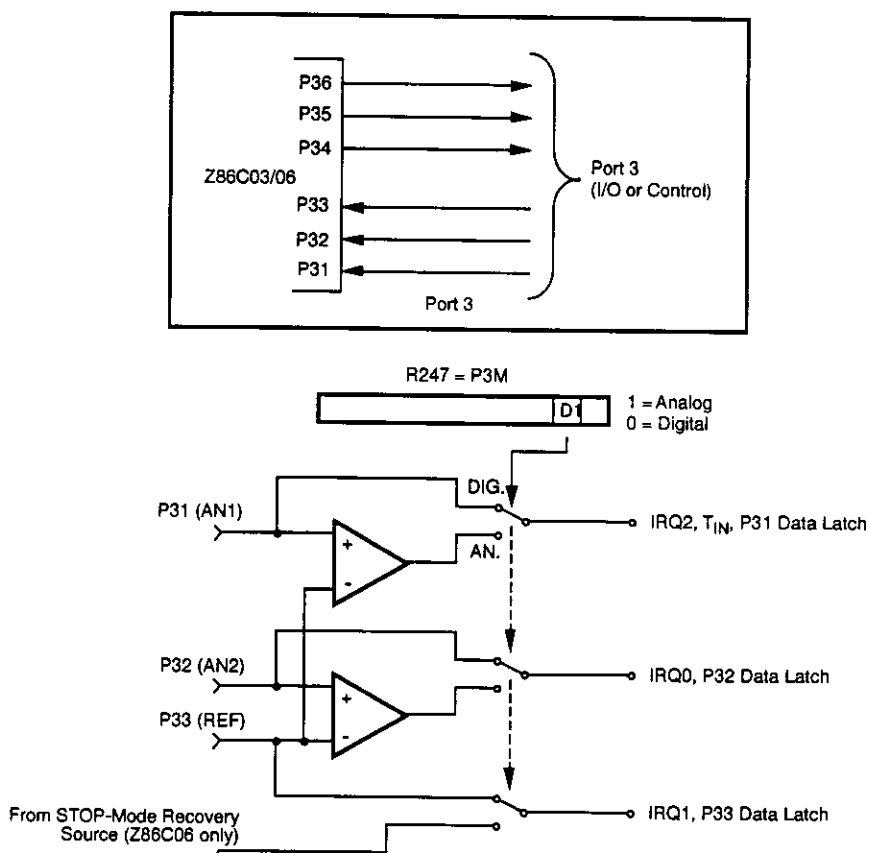

Figure 8. Port 3 Configuration
In the Z86C06, pin P34 can also be configured as SPI clock (SK), input and output, and pin P35 can be configured as Slave Select (SS) in slave mode only, when the SPI is enabled (Figures 8 & 9).